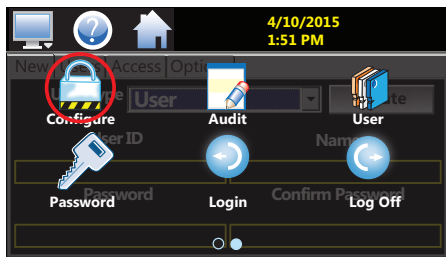

Fig. 19: Press Configure Icon
7. Press the HOME icon to return to the Home screen. Press MONITOR icon, then press CONFIGURE icon (Fig. 19).